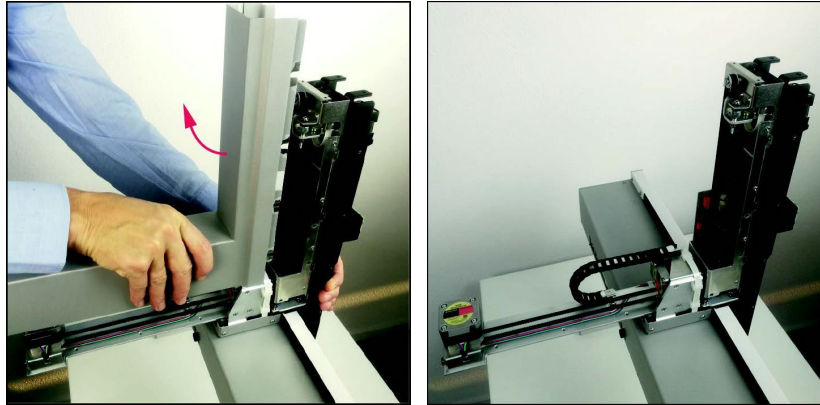

Figure 89: Rear Tower Cover Removal 2
3. Lift the L-shaped tower rear cover upwards to release it from the tower base, as shown in Figure 89.